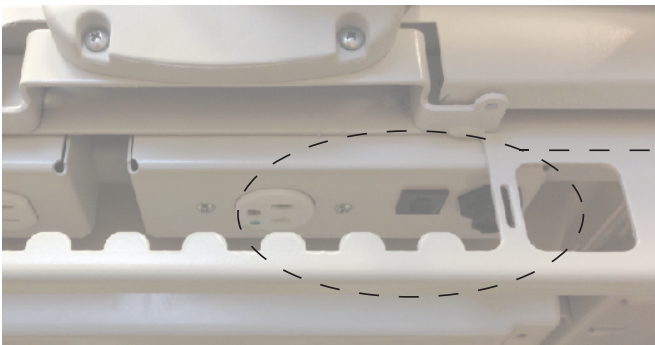

Figure 2 – InTouch foot end auxiliary power outlet and mattress connector
6. Put the retainer strap through both D-Rings (C), both sides.
12. Connect the integration cable from the support surface foot end to the InTouch cable adapter (B) (Figure 2).
15. Plug the power cord for the support surface into the InTouch foot end auxiliary power outlet (A) (Figure 2).